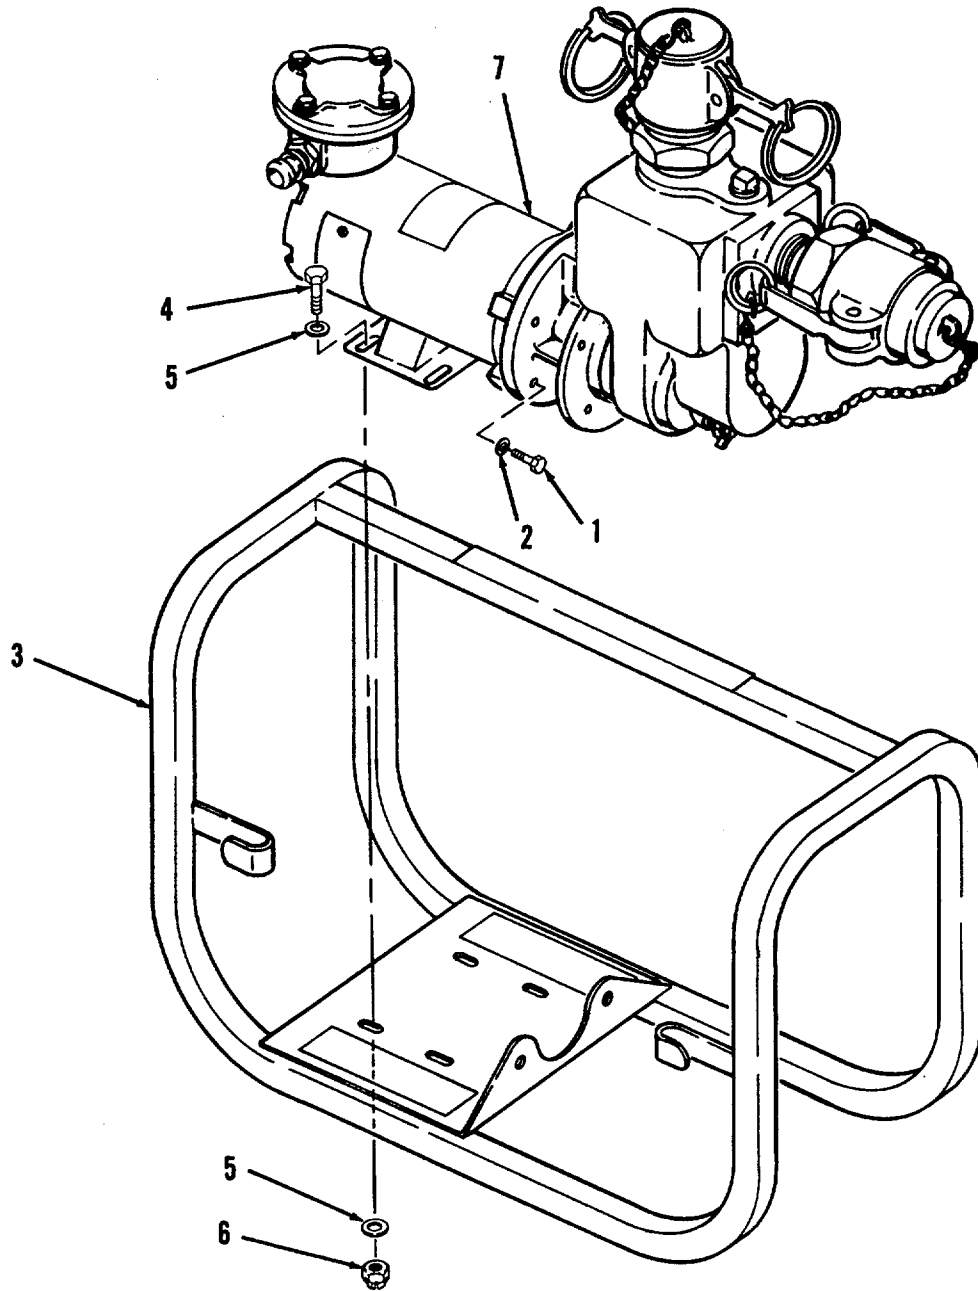

Figure 4-6. Frame Assembly Replacement.
a. **Removal** (Refer to Figure 4-6).
- (1) Remove two bolts (1) and two lock washers (2) from frame (3). Discard lock washers.
- (2) Remove four bolts (4), eight flat washers (5), and four lock nuts (6). Discard lock nuts.
- (3) Remove pump and motor assembly (7).